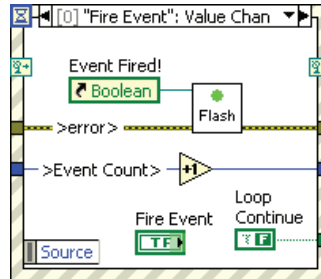

Figure 4-4. Fire Event Case
4. Configure a Fire Event case to handle both the Value Change event on the **Fire Event** Boolean control and the user event, as shown in Figure 4-4.